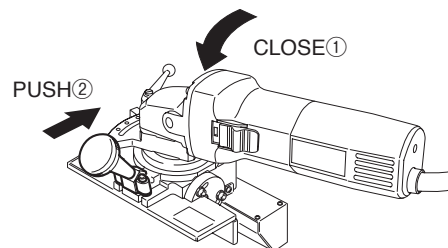

Fig.18
- (5) Close the Lock Plate with the Knob laid down and lay the Knob aside to lock it. (Fig.18)